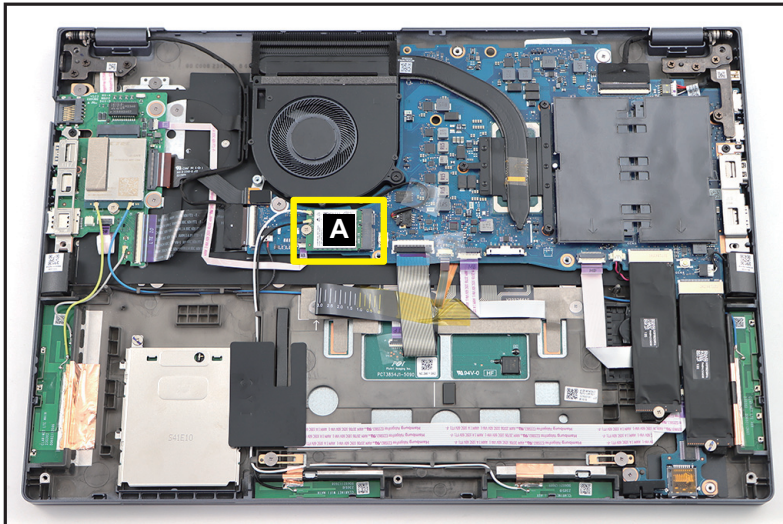

Figure 1-22. WLAN Module Location
1. Find the WLAN module (A) on the top assembly (Figure 1-22).